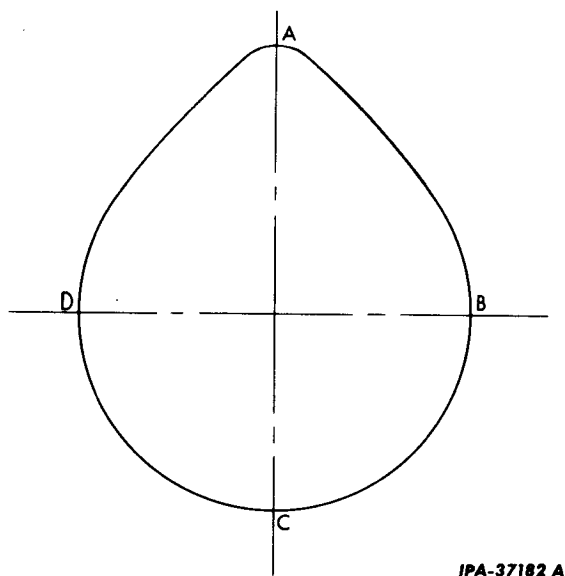

Fig. 8 - Points Of Measurement To Determine Cam Lobe Wear.
4. Inspect the lobes for wear. Refer to "SPECIFICATIONS" in Section 1, for cam lobe lift when new and for the maximum lobe wear. If the lifting areas of the cam lobes, when compared with a new camshaft, show excessive wear, the camshaft must be replaced. If a new camshaft is not available for comparison, the cam lobe wear can be measured with a micrometer in the following manner (Fig. 8):
5. Coat the camshaft bearings, cams and journals with clean engine oil. This will provide initial lubrication and prevent possible cam lobe scuffing when the engine is first started. Install it into the crankcase being sure that the timing mark on the camshaft gear is correctly indexed with the timing mark on the crankshaft gear. (Refer to Fig. 8, 9 and 10).